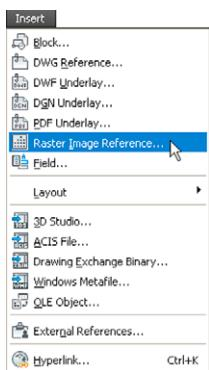
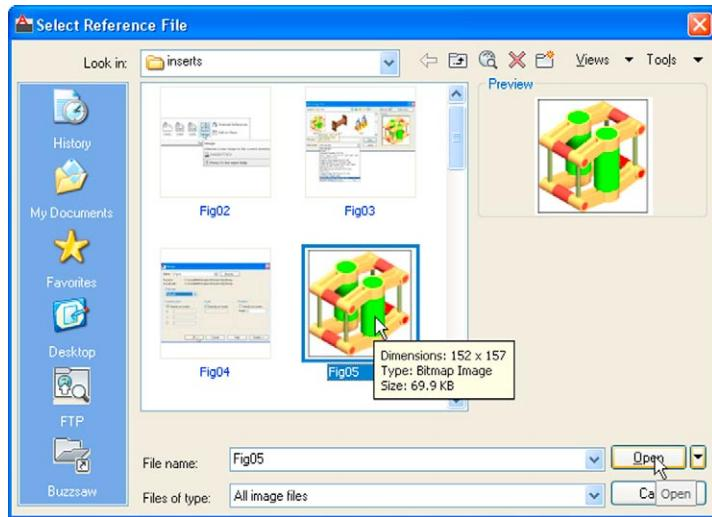

Fig. 10.8 Selecting **Raster Image Reference...** from the **Insert** drop-down menu
Fig. 10.9 The **Select Reference File** dialog
1. Click **Raster Image Reference...** from the **Insert** drop-down menu (Fig. 10.8). The **Select Reference File** dialog appears (Fig. 10.9). Click the file name of the image to be inserted, **Fig05** (a bitmap ***.bmp**). A preview of the bitmap appears.